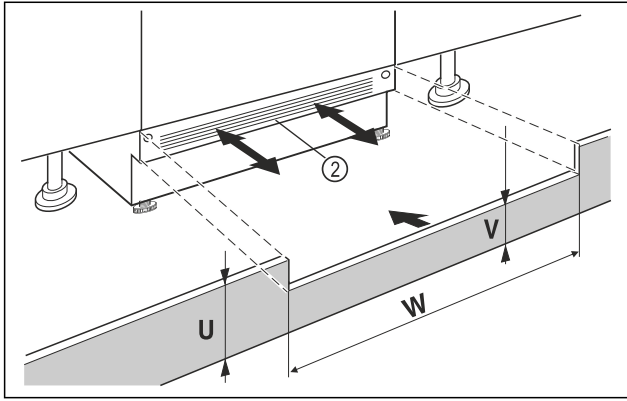

Fig. 98 Example illustration
- Put on the appliance base cover Fig. 98 (2) but do not fix it in place yet.
- If the base panel is visible Fig. 98 (2), pull it forwards so that the front edge of the ventilation grille and the unit base panel are level.
- If the base panel is concealed Fig. 98 (2), push it all the way back.
- Ensure that the ventilation slots are completely free: If necessary, cut the height of the unit base panel Fig. 98 (U) to size!
- Adjust the web height Fig. 98 (V) under the appliance base panel Fig. 98 (2) along the niche width Fig. 98 (W).